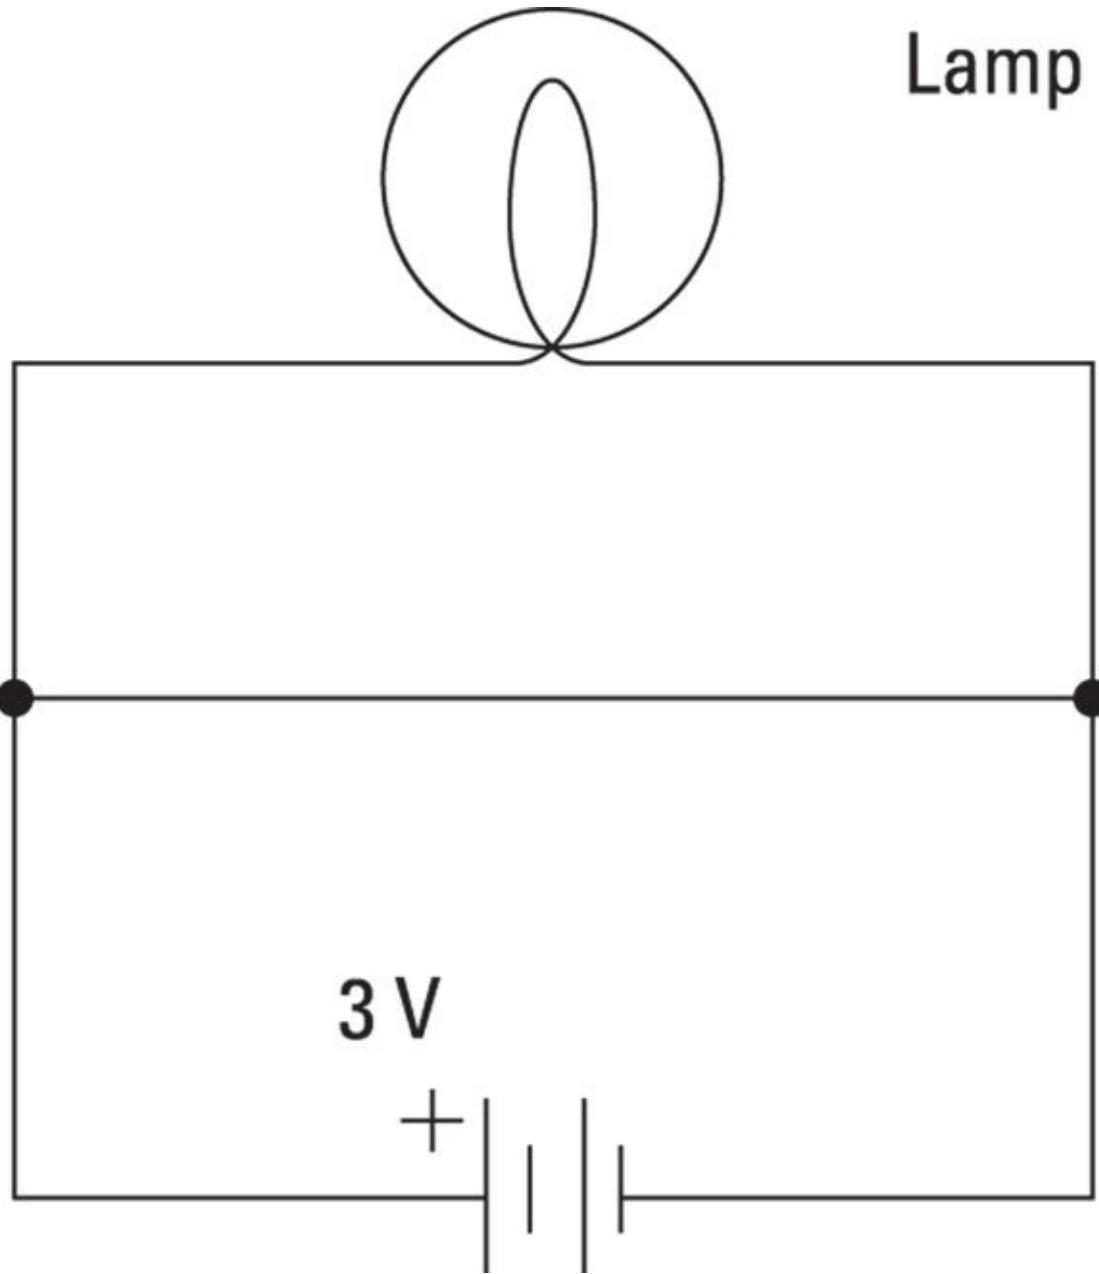

FIGURE 1-2: A short circuit.
- *Short circuit* refers to a circuit that does not have a load. For example, Figure 1-2 shows a short circuit; the lamp is connected to the circuit but a direct connection is present between the battery's negative terminal and its positive terminal, too.
TIP The short circuit shown in Figure 1-2 illustrates an important point about electrical circuits: It is possible — common, even — for a circuit to have multiple pathways for current to flow. In Figure 1-2, the current can flow through the lamp as well as through the path that connects the two battery terminals directly.
Current flows everywhere it can. If your circuit has two pathways through which current can flow, the current doesn't choose one over the other; it chooses both. However, not all paths are equal, so current doesn't flow equally through all paths. In the circuit shown in Figure 1-2, current will flow much more easily through the short circuit than it will through the lamp. Thus, the lamp will not glow because nearly all the current will bypass the lamp in favor of the easier route through the short circuit. Although a small amount of current will flow through the lamp, the current flowing through the lamp will not be sufficient to cause the lamp to visibly glow.